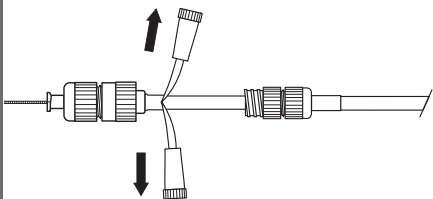

Fig. 5
13. Peel away the stent loader by grasping the knobs and pulling outward. (Fig. 5)